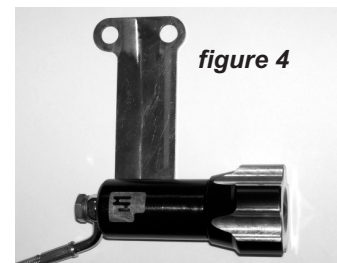
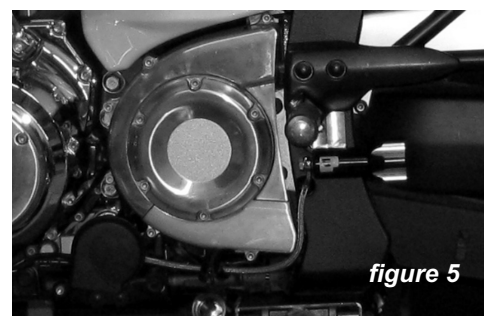

figure 4
figure 5
- Mount the adjuster to the supplied mounting bracket as shown in figure 4 using the supplied M6-1.0X8mm SHCS fasteners and torque them to 80-90 in/lbs (9-10 N-m). Then mount the bracket to the bike sandwiching it between the rear footrest mount and bag mounting-bracket (or footrest mounting spacers on non-bagger models) as shown in figure 5.